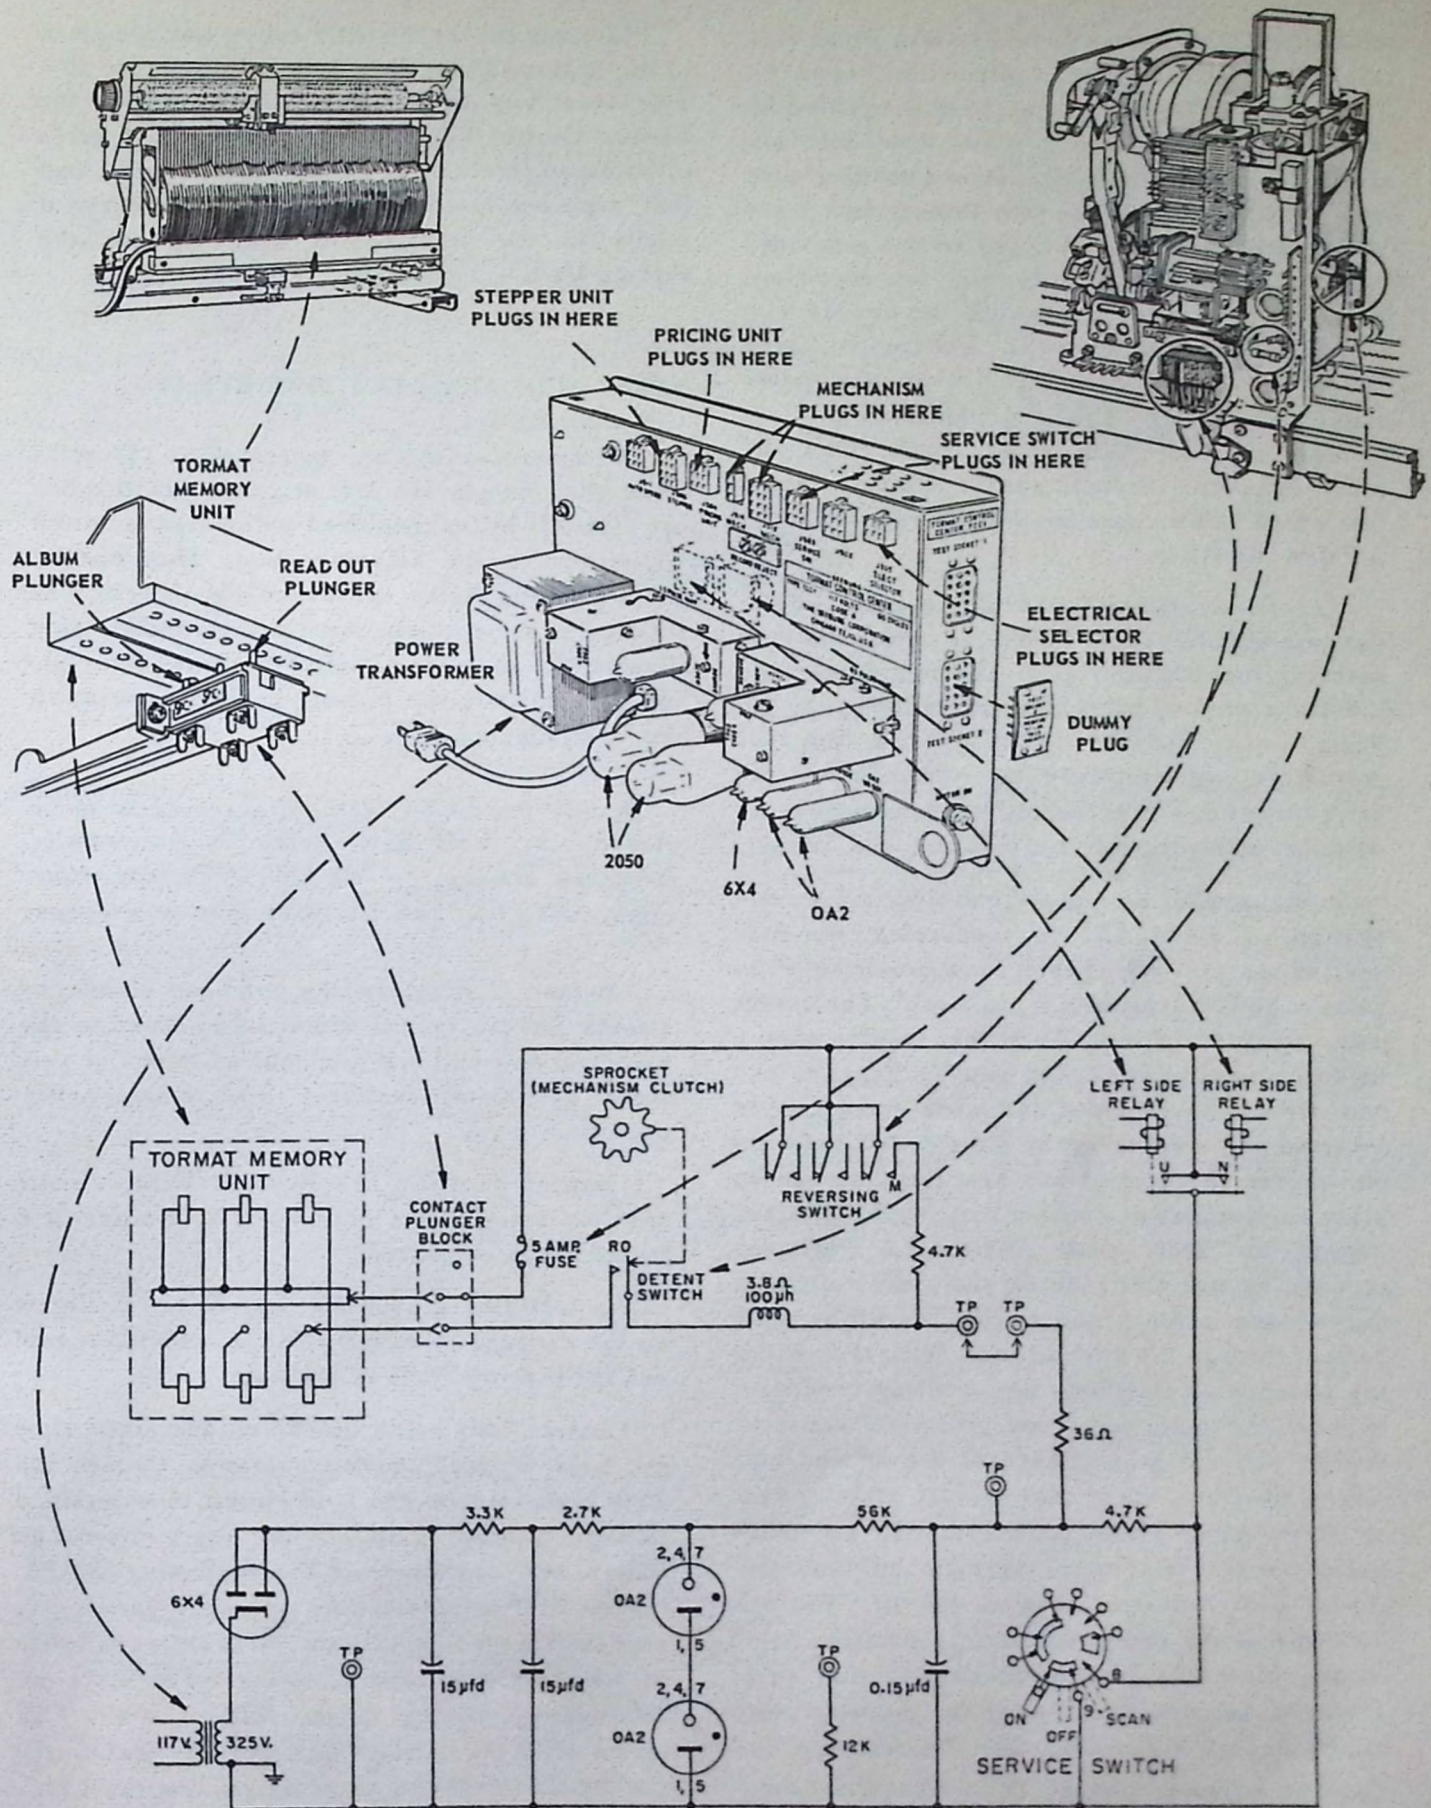

Figure 39. Read-out Circuit.
The read-out circuit is *shown in Figure 39*.
The read-out current is supplied by closing the detent switch contacts (RO) so the read-out condenser, C13, discharges. The condenser is charged to 300 volts by the drop across the two OA2 tubes. (The OA2 tubes, 6X4 rectifier, transformer and filter *shown in Figure 39* are common to both write-in and read-out circuits. They are repeated in the diagrams only for completeness of circuit presentation.) The read-out pulses are independent of supply voltage variations and will be consistently uniform in peak amplitude and shape at any supply line voltage at which the OA2 regulator tubes are functioning.